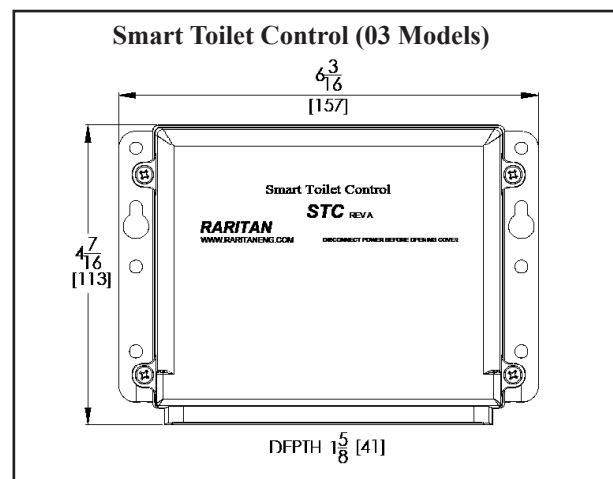

FIG 1 WIRING FOR MOMENTARY FLUSH HANDLE CONTROL REMOTE 02 MODEL
- Wire using Fig. 1, 2, 3, 4, 5, or 6